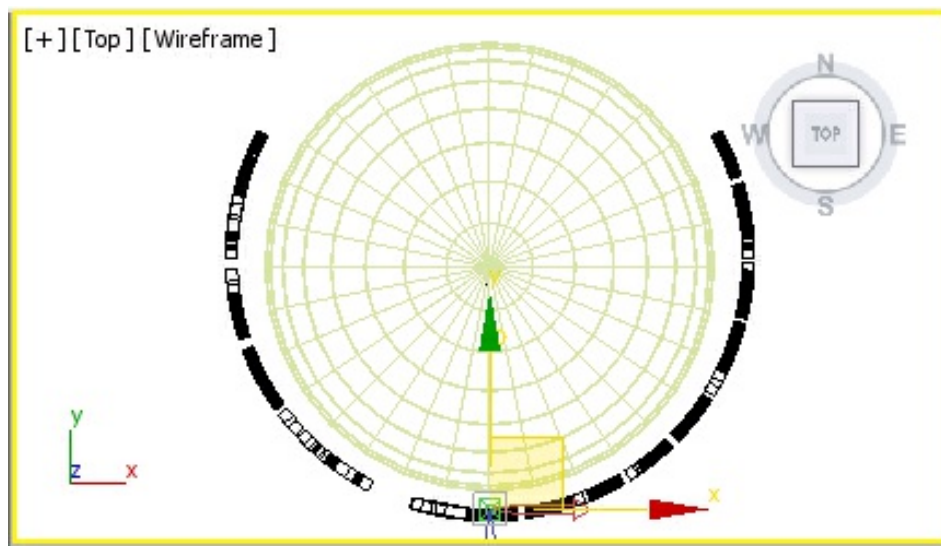

Figure 14-64 The pivot point of the *Text001* displayed in the Top viewport
5. Select *Text001* in the Top viewport and choose the **Hierarchy** tab in the **Command Panel**. In the **Adjust Pivot** rollout, choose the **Affect Pivot Only** button; the pivot point of *Text001* is displayed in the viewport, as shown in Figure 14-64.